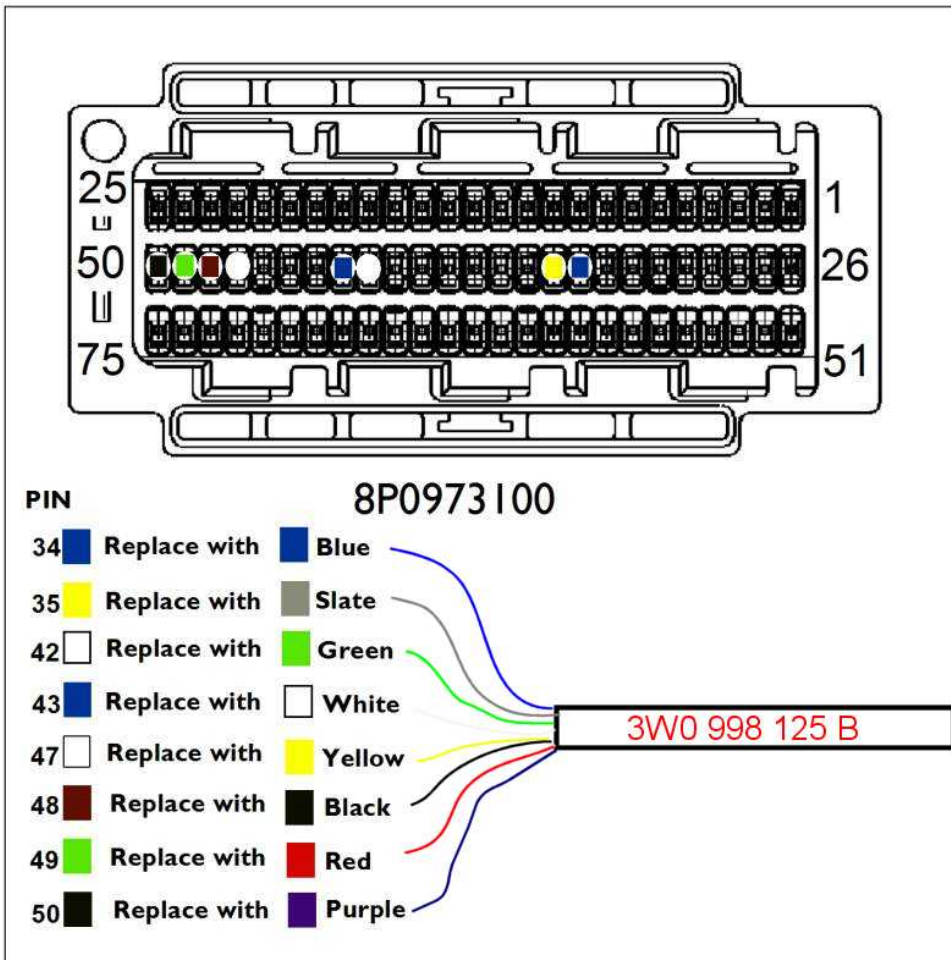
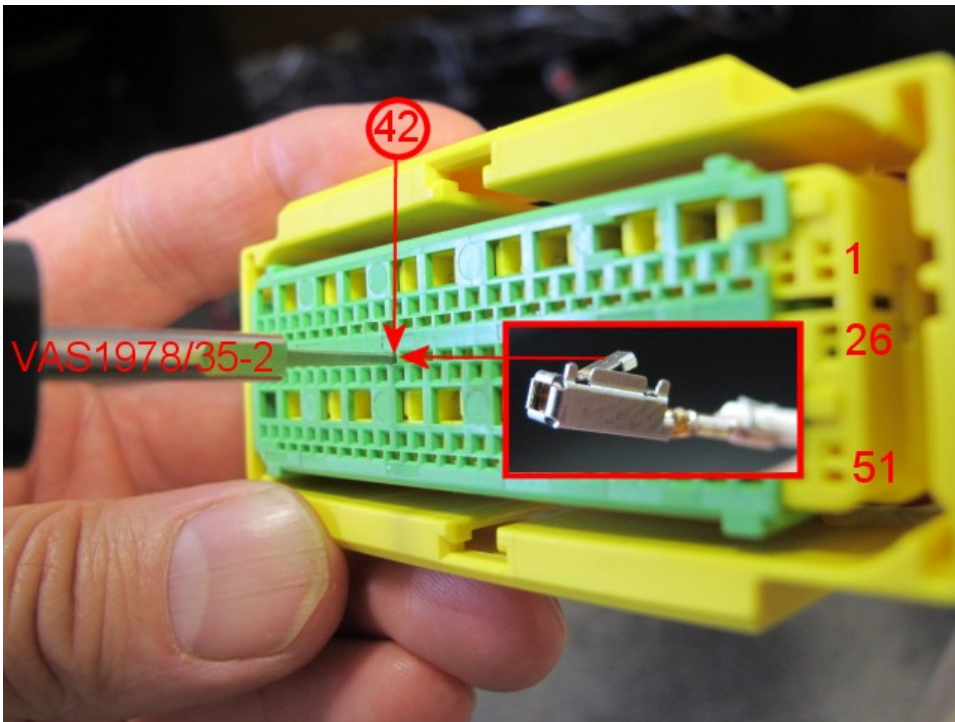

Figure 13
Figure 14
22. Identify the eight wires that have to be removed from the housing (see Figure 13). Note: figure 13 shows the connector face (not cable entry). The left hand list and the plug detail depicts the cable colours originally in the harness. The new cable colours are shown associated with the new harness (part number 3W0 998 125B)
- Note:** A sample of vehicles may have the white and brown cables in cavity 47 and 48 transposed this is expected and despite this the new harness cables should be inserted into the cavities as shown in figure 13. This is the yellow in cavity 47 and the black in cavity 48
24. With the new harness in position fit each of the eight new wires in turn into the correct cavities as detailed in figure 13. Note: the correct orientation of the locking lance when fitting the new terminals into the centre row of cavities in the housing (see Figure 14)
25. Re check that you have correctly populated the air bag control module terminal housing (see Figure 13 and 15)